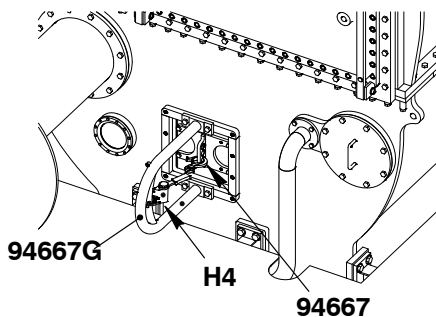

Fig. 3
- 8) Install the tool (94667) to the rear of the water separator (refer to Fig. 3).